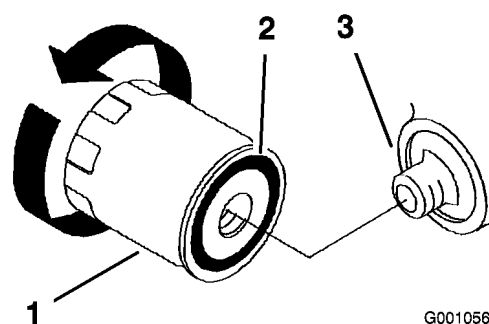

Figure 39
- Remove the old filter and wipe the filler adapter gasket surface (Figure 39).
- Apply a thin coat of new oil to the rubber gasket on the replacement filter (Figure 39).
- Install the replacement oil filter to the filter adapter, turn the oil filter clockwise until the rubber gasket contacts the filter adapter, then tighten the filter an additional 2/3 to 1 turn (Figure 39).